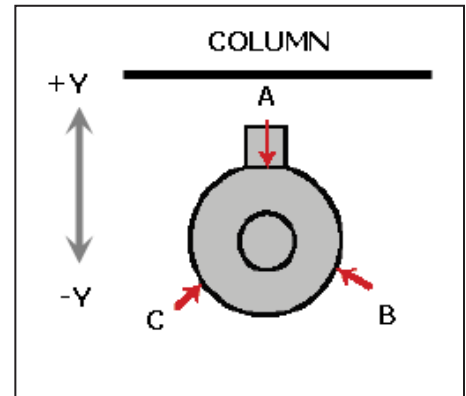

Figure 8.10
a. Orient the probe in the spindle so one of three adjustment screws is opposite the machine column (see **Figure 8.10**). Label this *Screw A*.